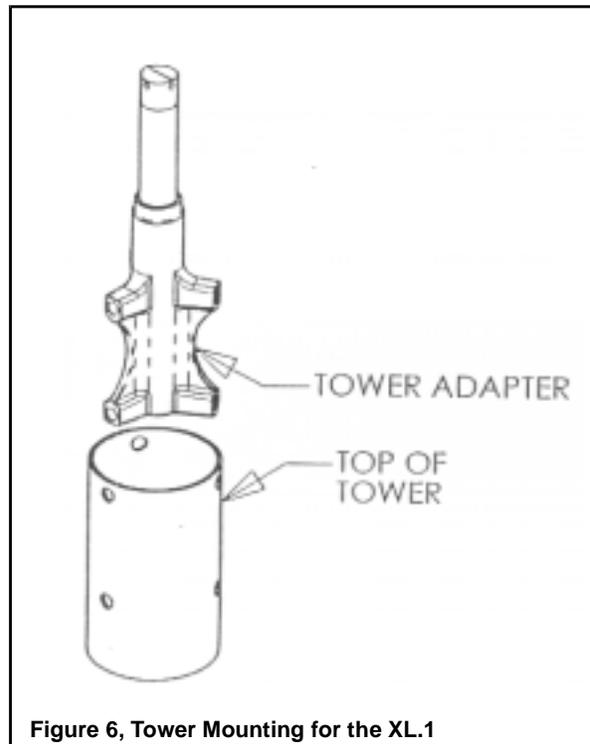

Figure 6, Tower Mounting for the XL.1
**Tower Mounting:** The XL.1 wind turbine is attached to its tower by a three-sided, six fastener casting, shown in Figure 6, that is designed to fit inside a tube with an inner diameter of 85 mm (3.35 in). If you are using the BWC Tilt Tower then the XL.1 will bolt directly in place. If you are mounting the XL.1 to a different type of tower then you will need to ensure that the tower meets the requirements for XL.1 towers (see Appendix) and that it has a proper adapter fitting for attaching the XL.1 tower mount casting (also defined in the Appendix)